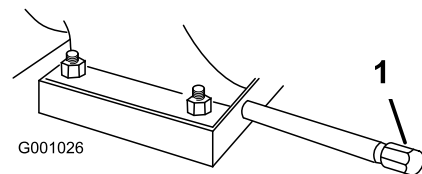

Figure 51
1. Clean the area around the oil drain cap (Figure 51).